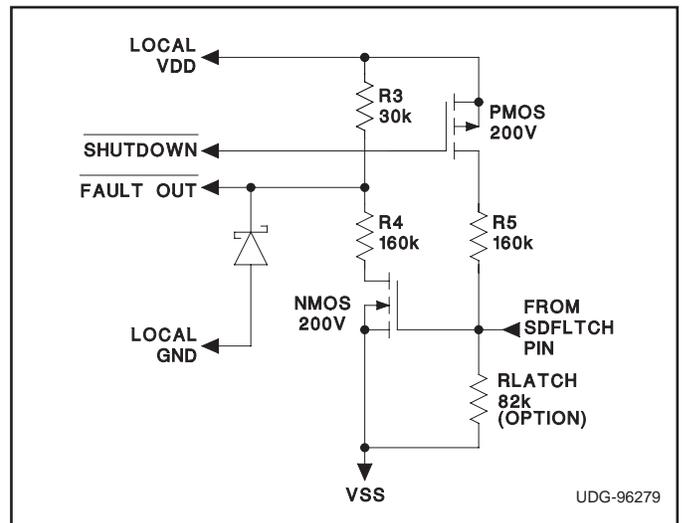

Figure 6. Possible Level Shift Circuitry to Interface to the UCC3921, showing component values selected for a typical telecom application.
Some type of circuit is needed to interface with the UCC3921 via SDFLTCH, such as opto-couplers or level shift circuitry. Figure 6 depicts one implementation of level shift circuitry that could be used, showing component values selected for a typical -48V telecommunications application. There are three communication conditions which could occur; two of which are Hot Swap Power Manager (HSPM) state output indications, and the third being an External Shutdown.
- 1) When open, and under a non-fault condition, SDFLTCH is pulled to a low state. In Figure 6, the N-channel level shift transistor is off, and the FAULT OUT signal is pulled to LOCAL VDD through R3. This indicates that the HSPM is not faulted.
- 2) When a fault is detected by the fault timer or under-voltage lockout, this pin will drive to a high state, indicating that the external power FET is off. In Figure 6, the N-channel level shift transistor will conduct, and the FAULT OUT signal will be pulled to a Schottky Diode voltage drop below LOCAL GND. This indicates that the HSPM is faulted. The Schottky Diode is necessary to ensure that the FAULT OUT signal does not traverse too far below LOCAL GND, making fault detection difficult.